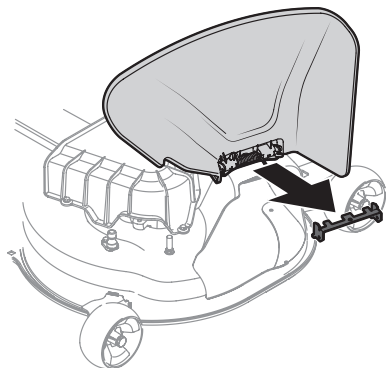

Figure 19
1. Check the tractor deck for a shipping brace that may be holding the chute deflector upward for shipment. If the brace is present, it must be removed before operating the tractor. Holding the chute deflector fully upward, remove the shipping brace. Lower the chute deflector and discard the shipping brace. See Figure 19.